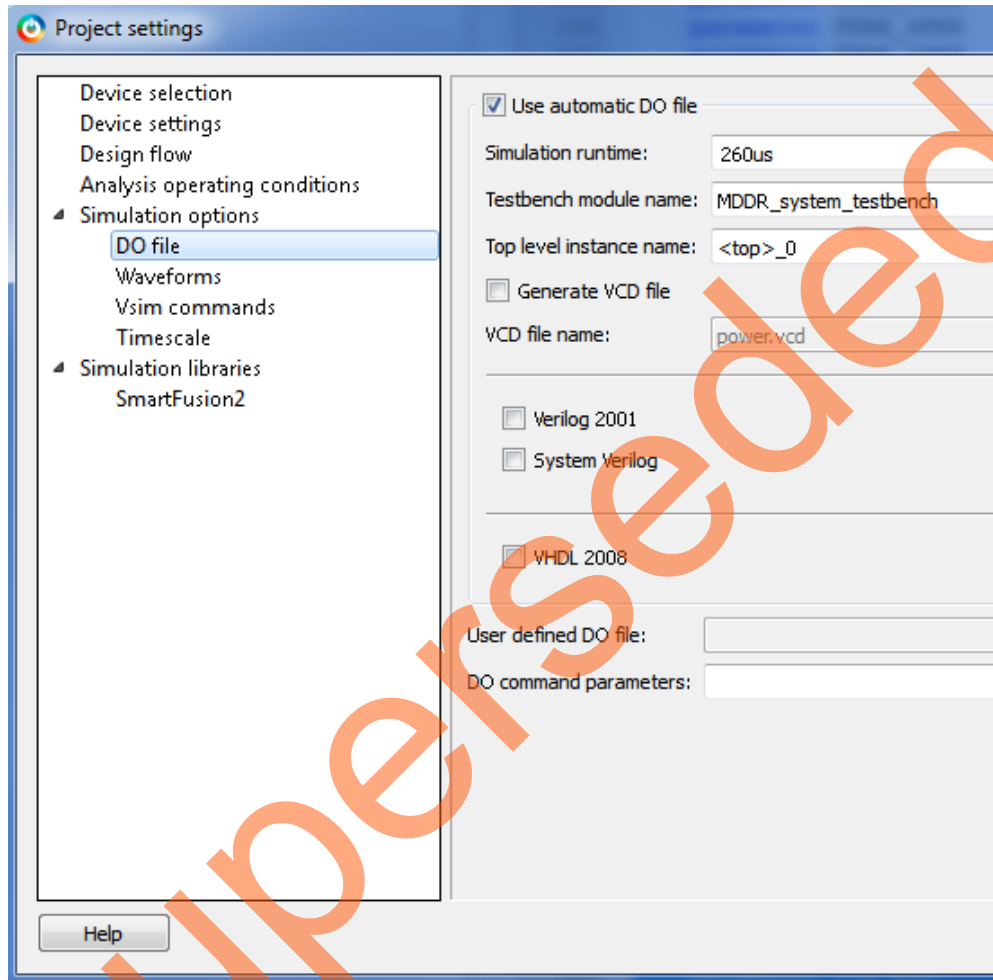

Figure 36. Project Setting – Do File Simulation Runtime Setting
2. Select **Do File** under Simulation Options in the Project Settings window. Change the **Simulation runtime** to 260us, as shown in Figure 36.